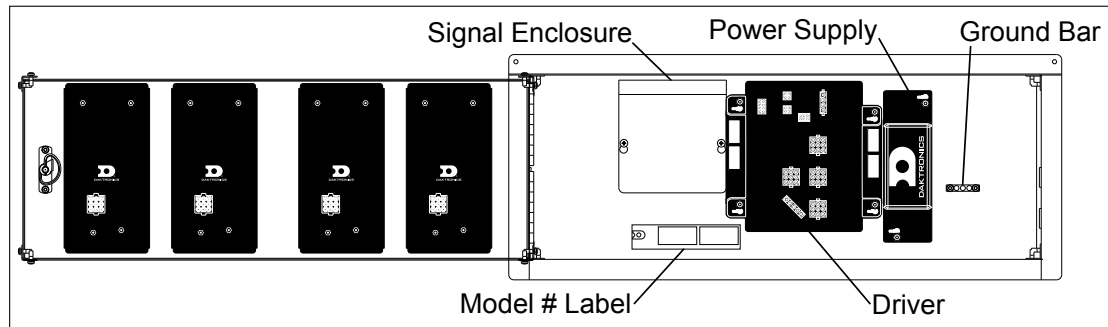
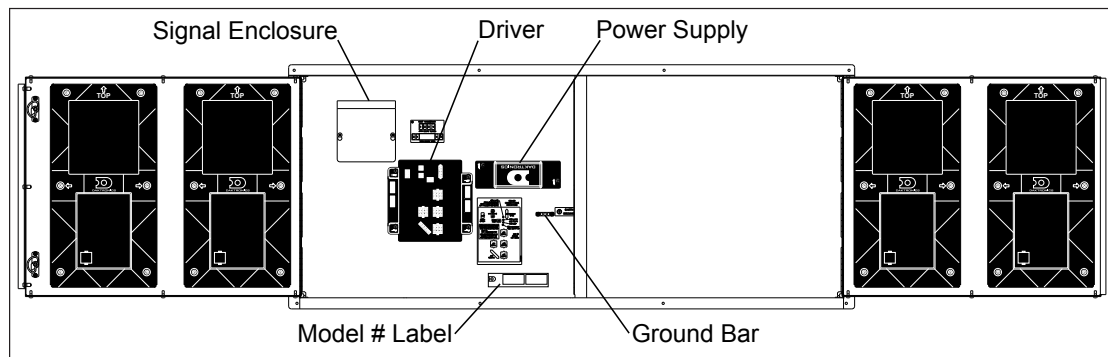
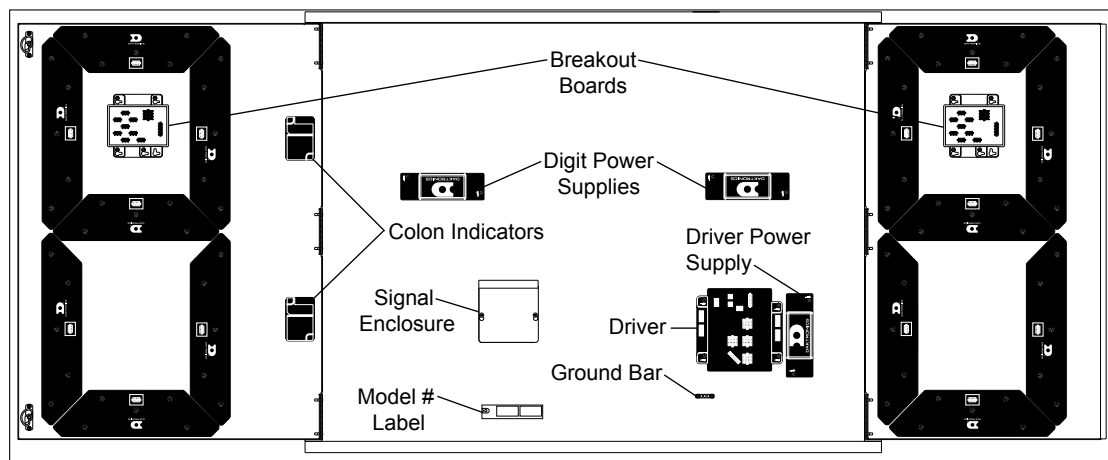

Figure 5: Internal Component Locations (8" Digit Display)
Figure 6: Internal Component Locations (18" Digit Display)
Figure 7: Internal Component Locations (36" Digit Display - Right Section)
3. Components are attached inside the cabinet to the display's backsheet and their locations vary between display sizes. See **Figure 5**, **Figure 6**, and **Figure 7** for approximate component locations.